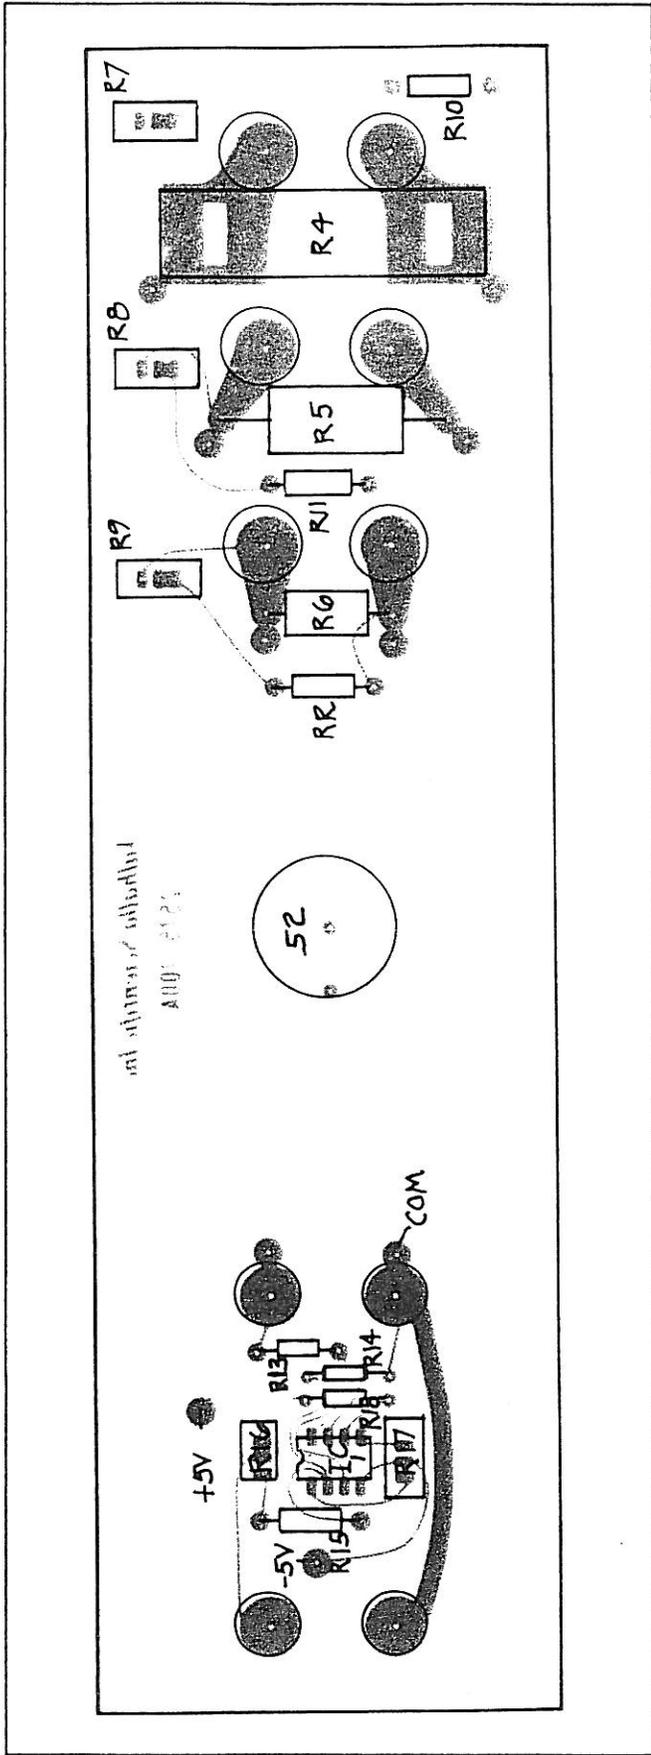

Figure 1. Front Panel Circuit Board Assembly.
3. Connect the current calibrator output to the 100A range terminals using high current spade lugs. Set the current calibrator output for 100 amperes and adjust R1 (see Figure 1) by filing to provide a DVM reading of 100.00 millivolts ± 50 microvolts.
current calibrator output for 10 amperes and adjust R2 (see Figure 1) by filing to provide a DVM reading of 100.00 millivolts ± 20 microvolts.
7. Connect the current calibrator output to the 1A range terminals. Set the current calibrator output for 1 ampere and adjust R3 (see Figure 1) by filing to provide a DVM reading of 100.00 millivolts ± 20 microvolts.